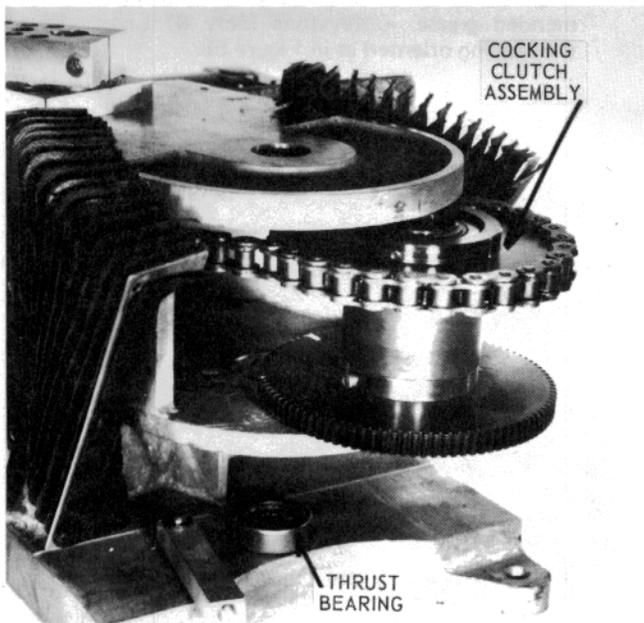

Figure 52 – Cocking Clutch Assembly
2.1.12 Remove the cocking clutch assembly (see Figure 52).